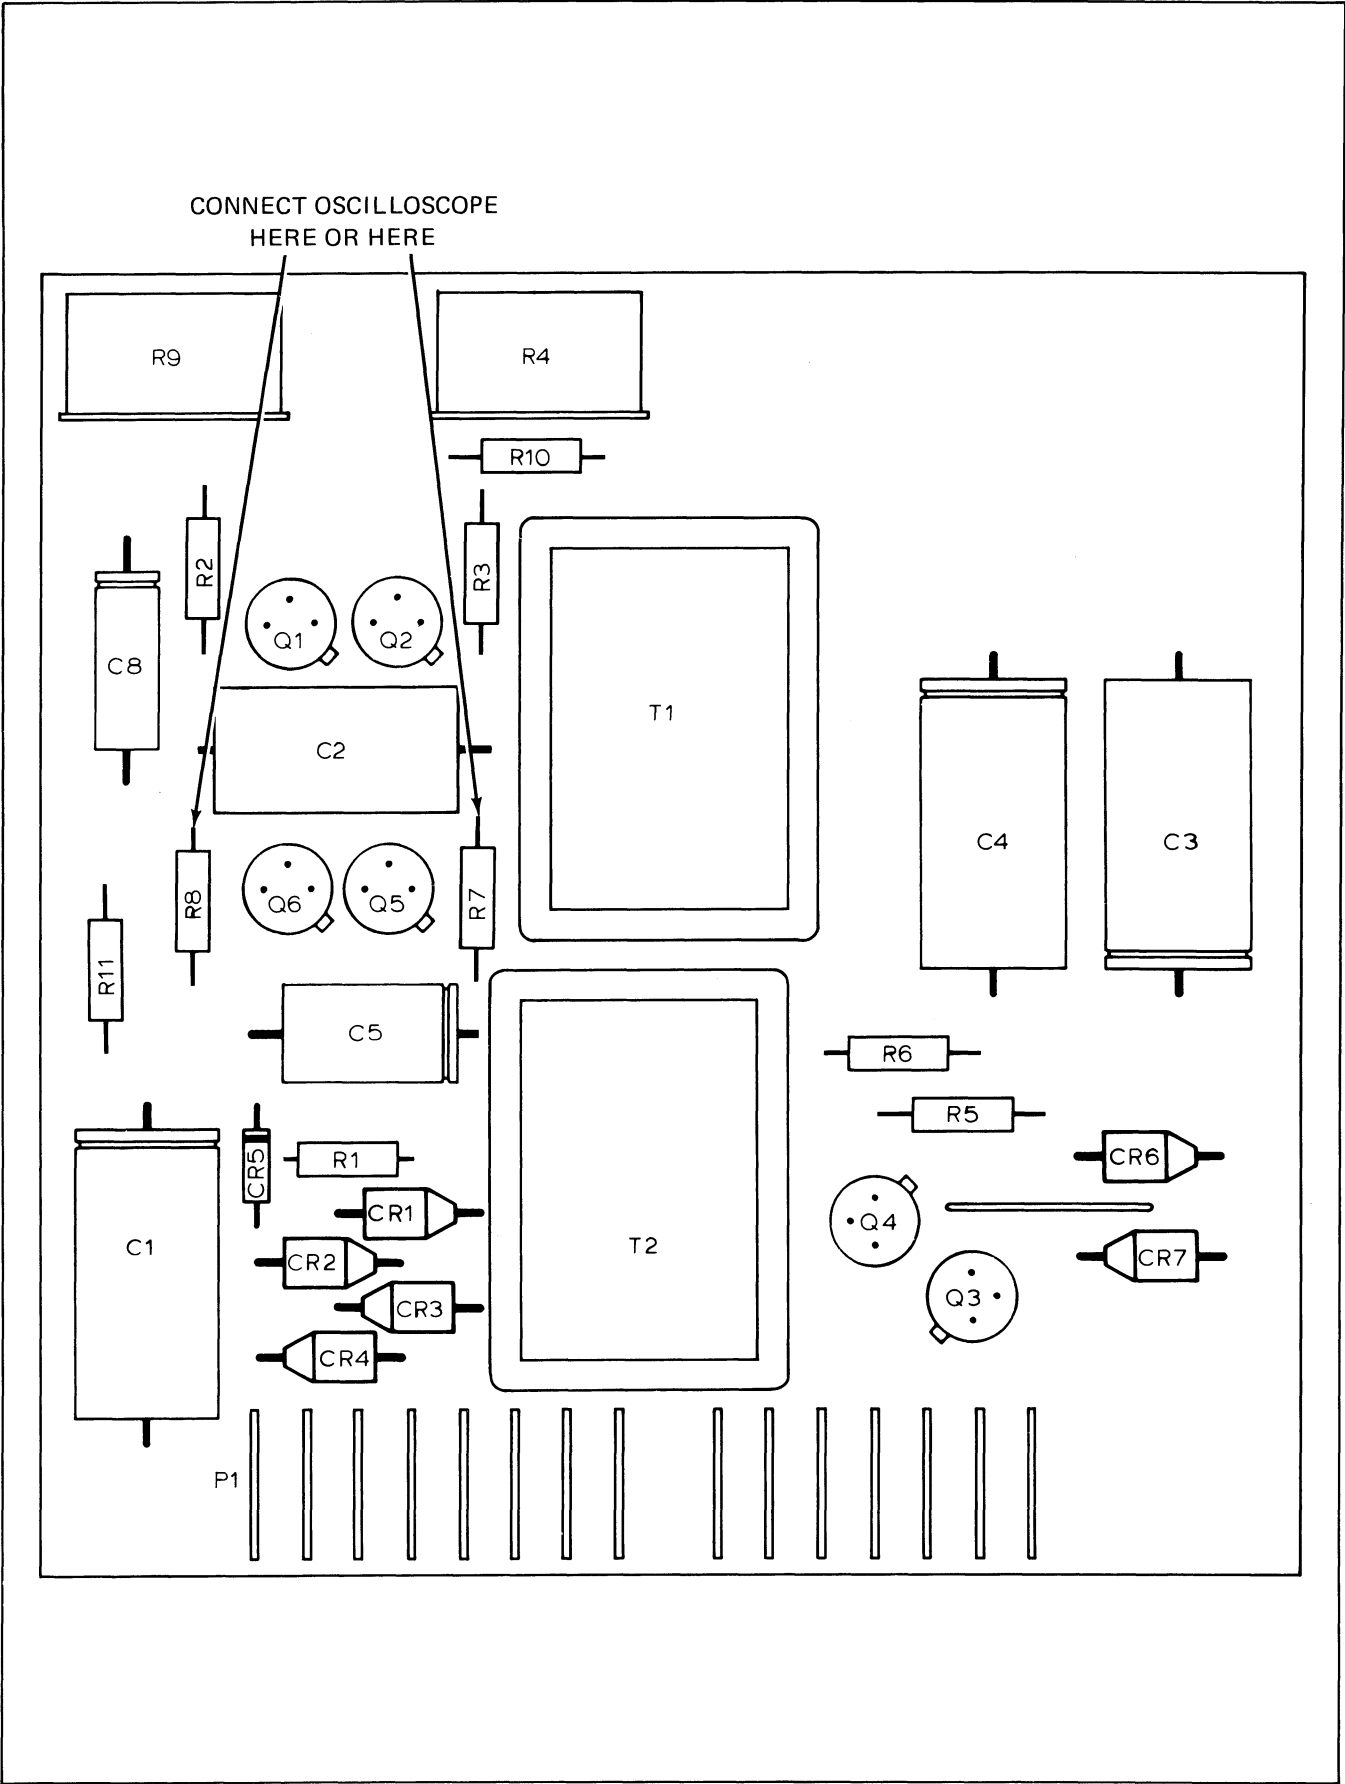

Figure 4-7. Null Detector Power Supply Test Points
2. Connect the oscilloscope at either the collector of Q1 or Q2. (Refer to Figure 4-7.)